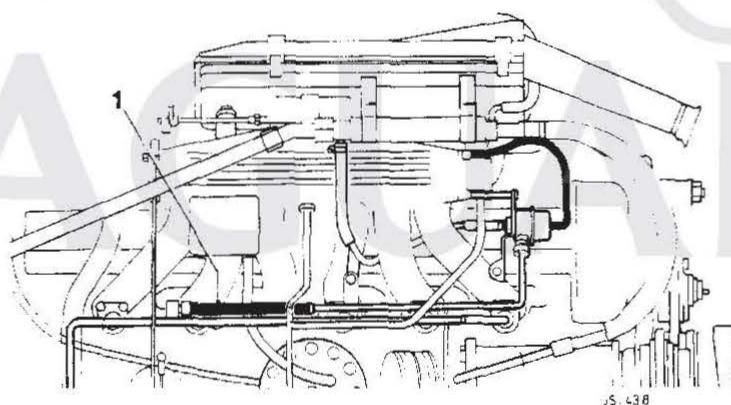

FIG 4
3. Disconnect the fuel rail to the outlet pressure regulator hose assembly (EAC 8088) at the rail and regulator and remove the hose assembly (l. Fig. 4). Ensure that any fuel spillage is absorbed using suitable cloths.